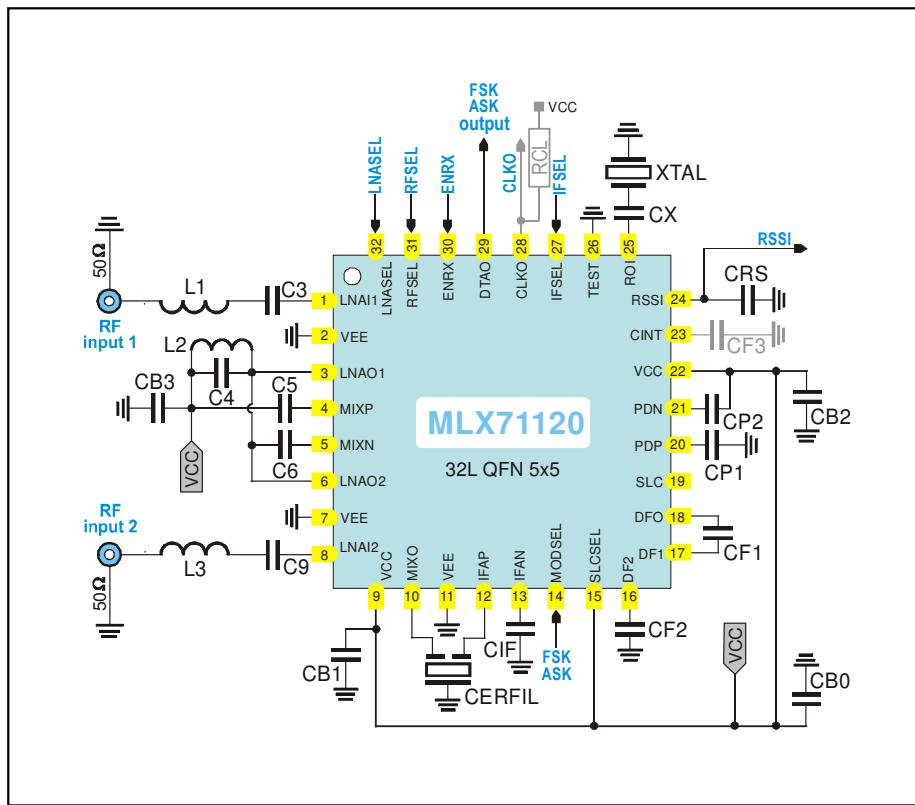

Fig. 10: Dual-channel circuit schematic, peak detectors activated
typical values at $T_A = 23^\circ\text{C}$ and $V_{CC} = 3\text{ V}$, all parameters based on test circuits as shown Fig. 10
5.1.1 Test Circuit Component List for Figure 10